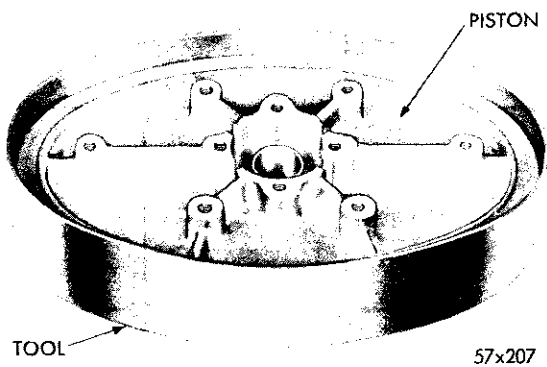

Fig. 60—Piston Installed in the Assembly Tool
(1) Place the vacuum piston in assembly Tool C-3578, with the threaded holes in the piston facing up, as shown in Figure 60.